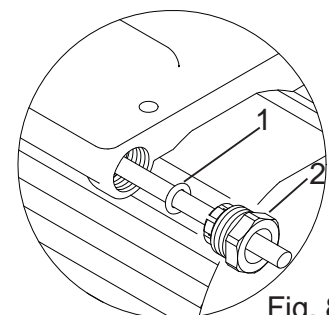

Fig. 8
To enable correct assembly of the cable gland the 'O'-ring (Fig. 8 item 1) must be placed over the cable before the clamping insert (Fig. 8 item 2) can be tightened.